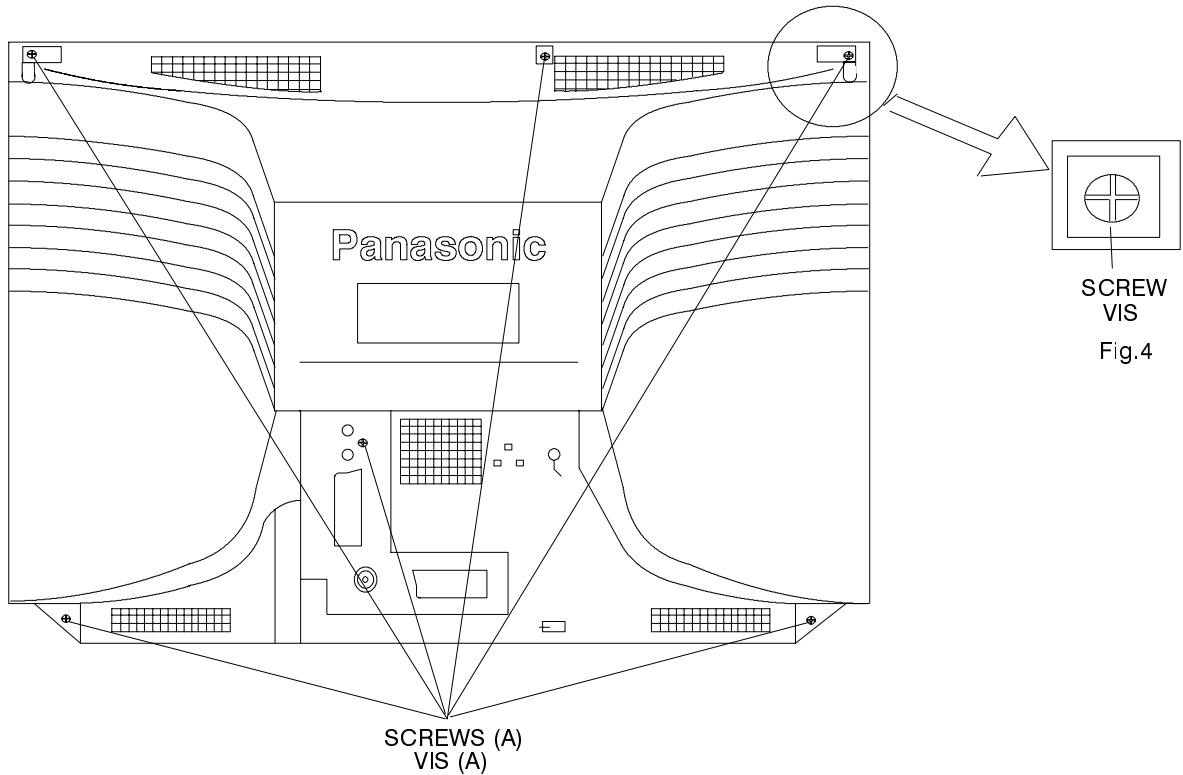

Fig.3.
1. Remove the 6 screws (A) as shown in Fig.3/Fig.4.
1. Retirer les 8 vis (A) comme sur la Fig.3. / Fig.4.